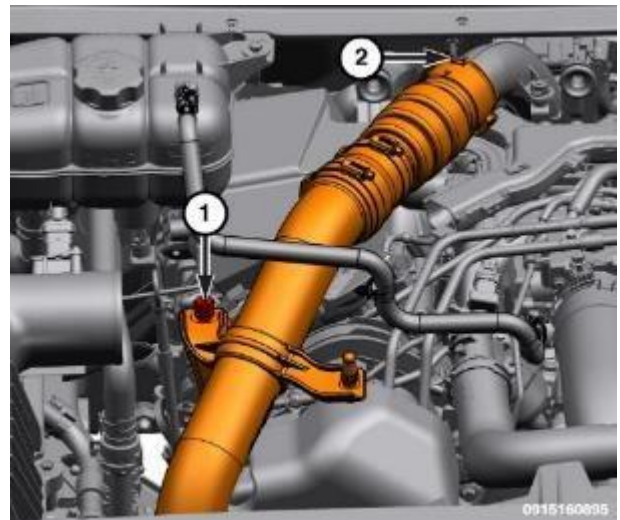

Figure 6 – CAC Hose
12. Remove the fastener (1) securing the right Charge Air Cooler (CAC) hose (Figure 6).
13. Release the retaining lock and disconnect the right CAC hose (2) from the turbocharger (Figure 6).